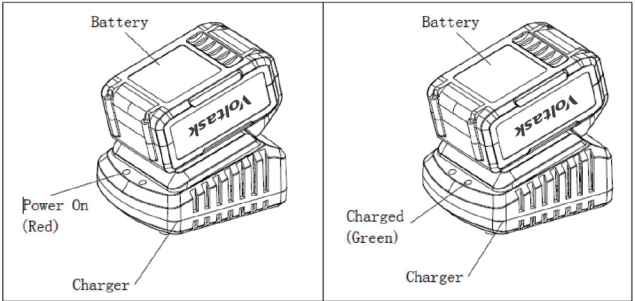

Fig. 6
4. Place the battery pack into the charger by sliding the pack to lock it into position. When you insert the battery into the charger, the green light at the top right will go off and the red light at the top left will illuminate to indicate that the battery is charging. (Fig.6)